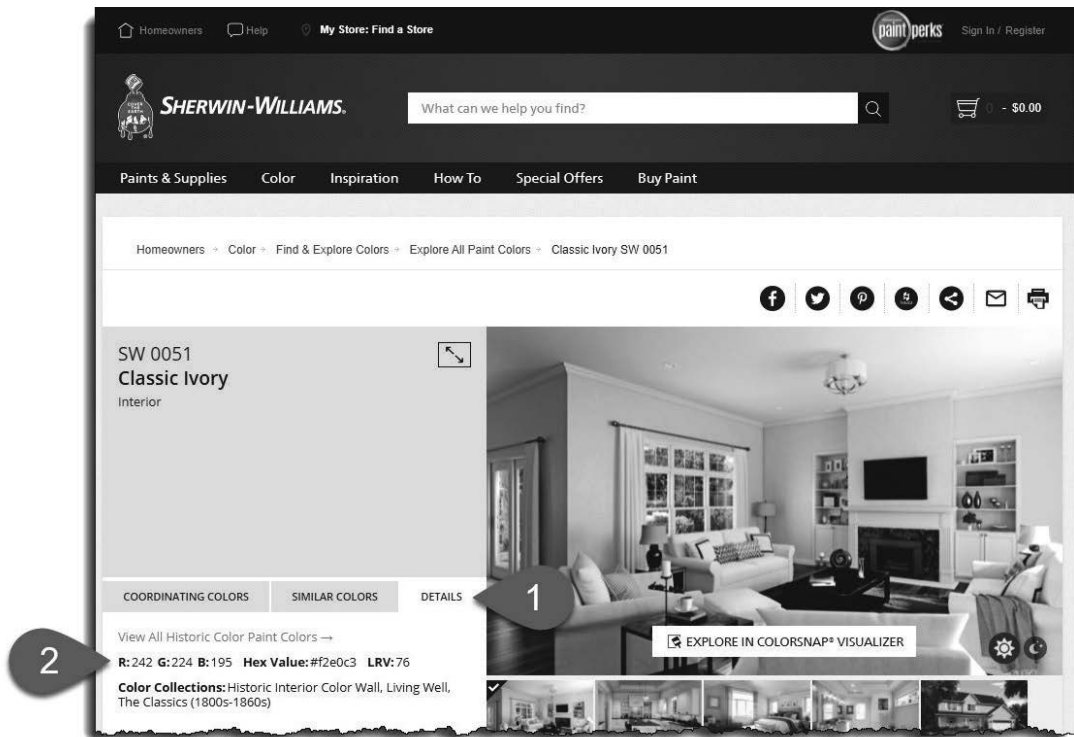

FIGURE 4-3.11 Sherwin Williams website
35. Click on the preview swatch for **Classic Ivory** and then click **Details** to see more information (Figure 4-3.11).
You should now see the information shown below (Figure 4-3.11). Notice the RGB Value listed: 242,224,195. These are the Red, Green, and Blue colors which make up the Classic Ivory color. This information can be entered into the Revit material to create the proper color representation. Next you will create the PT1 *Material* in Revit.